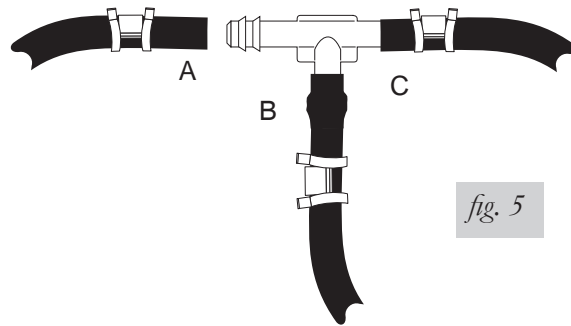

fig. 5
3. Push the air line over one side of the tee until all the barbs are covered. With a pair of pliers, slide the air line clamp forward until it fully covers the barbed section. Repeat entire procedure for other leg of the tee (fig. 5).